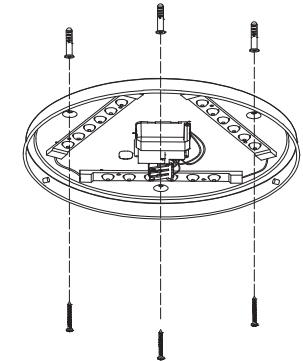

fig. 2
- fig. 2:** Hold bracket against the wall and mark drill points, drill the holes, insert the dowel. Use suitable material for wooden walls or lightweight walls. Pull the cable through the cable grommet. Put one sealing ring on each screw and fasten the base plate with the 3 screws. Watch out for a proper seal and the correct position of all seals, in order to ensure the splash water protection (IP44).